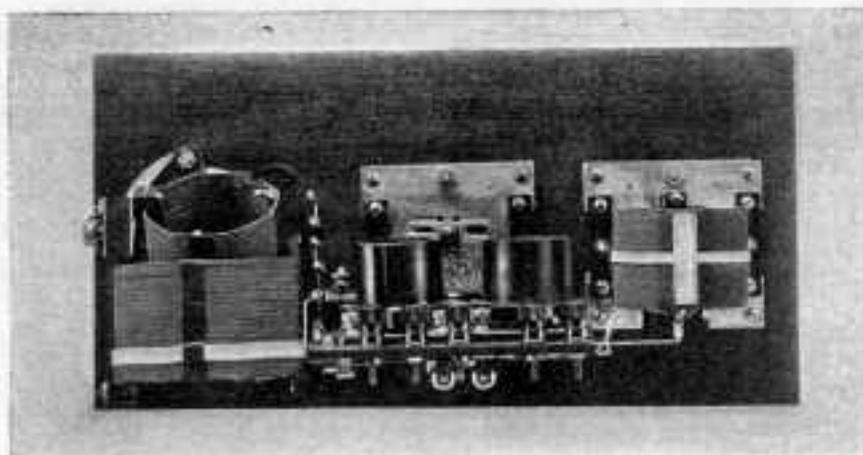

Fig. 1. No adjustment of the coupling coil is necessary once it has been set. The coupler is fastened to the tube panel with an angle bracket.
passing through the base panel and up to the four corners of the sockets. These screws must have lugs under them. You will see that this arrangement serves two purposes. The longer screws hold the sockets to the base panel and at the same time allow connections to the terminals to be made at the under side of the tube panel. Be very sure that the sockets are put on correctly and the slots in the socket tubes are located as shown in Fig. 1, the top view.
5. With the condensers in place, remove the R. H. screws which go through the rear end plate of the smaller condenser and thread into the supporting pillars. Put an angle bracket on each of these screws and tighten up the screws again in their proper places. Do the same thing to the screw going into the lower left-hand post of the larger condenser, looking at the set from the rear. This arrangement is shown in Fig. 1, the top view. Fasten the tube panel to these three angle brackets, using  $\frac{1}{2}$ -in. 6-32 R. H. screws and nuts. These must be fitted with soldering lugs as they provide connections 14, 16 and 32.